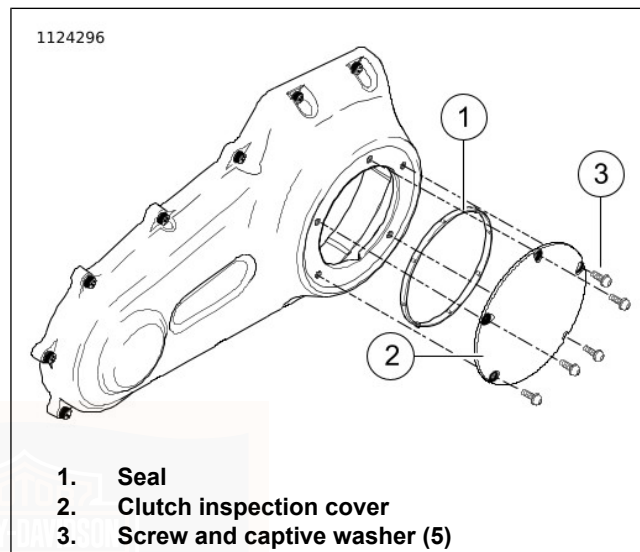
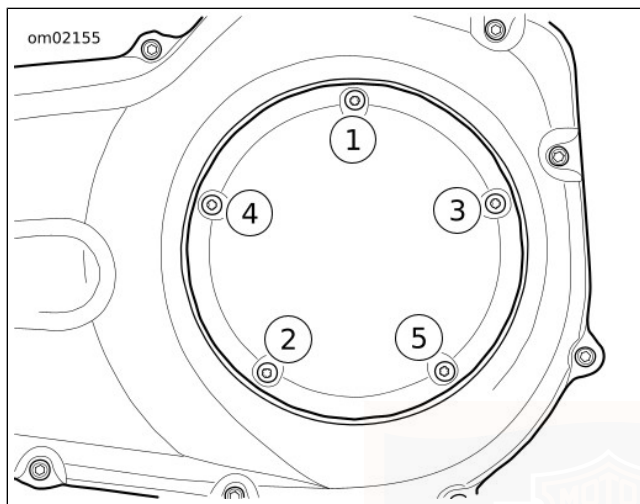

Figure 72. Clutch Cover (Typical)
Figure 73. Clutch Cover Tightening Sequence
6. See Figure 72. Remove screws (3) and clutch inspection cover (2).
7. Remove seal (1). Wipe oil from groove in chaincase cover and mounting surface.
- b. See Figure 72. Position **new** seal (1) in groove in clutch inspection cover (2). Press each of the nubs on seal into the groove.
- c. Secure clutch inspection cover (2) with screws with captive washers (3).
- d. See Figure 73. Tighten in sequence shown to 9.5–12.2 N·m (84–108 **in-lbs**).